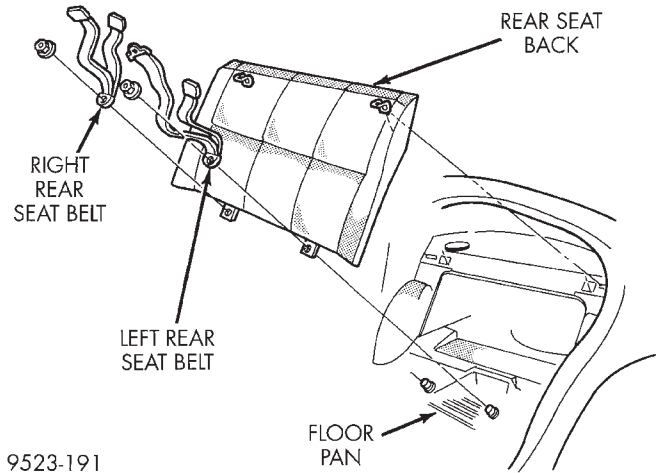

Fig. 76 Seat Belt – Rear Inboard
- (1) Remove rear seat cushion.
- (2) Remove nut attaching seat belt to floor (Fig. 76).
- (3) Remove seat belt from vehicle.